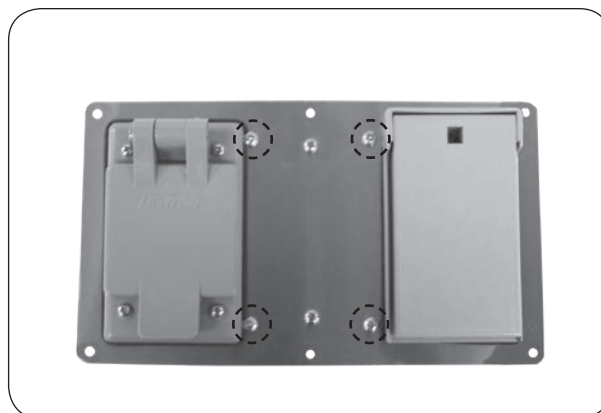

Fig. 40-3 Remove 4 small screws
4. Remove the 4 small screws found on the cover of the power supply box (see Fig. 40-3).